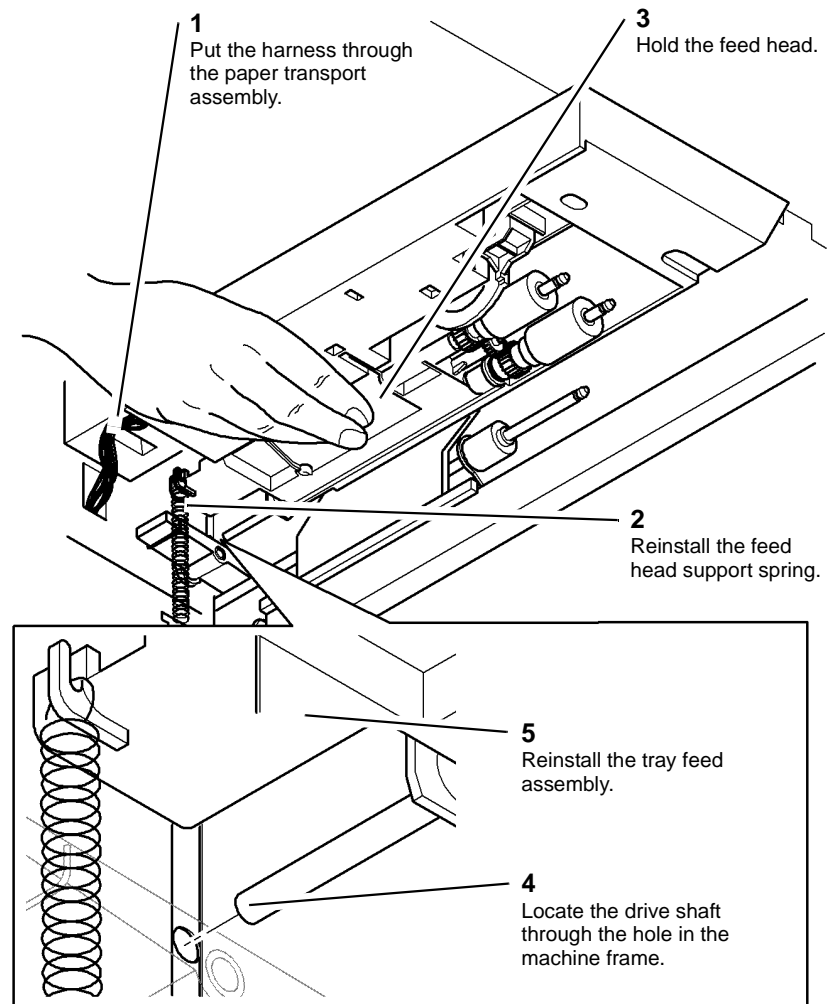

Figure 5 Reinstalling the feed assembly
1. Replacement is the reverse of the removal procedure. To reinstall the tray feed assembly, refer to Figure 5.